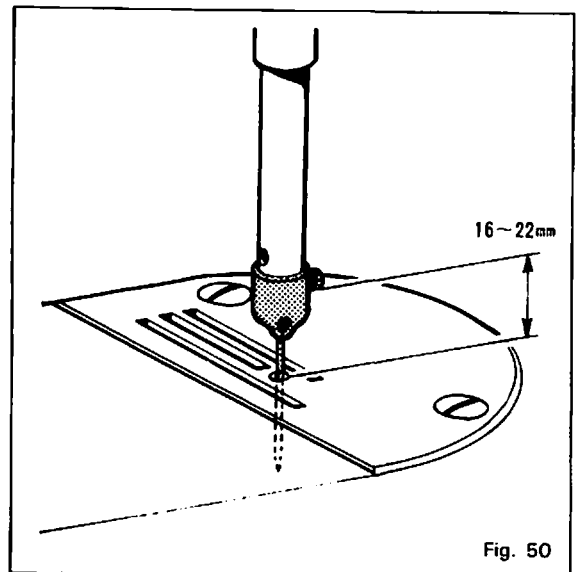

Fig. 50
When the sewing machine stops at its needle down position after high speed sewing and treadle pedal's neutral position, adjust to move the position of needle down lead switch ⑥ by loosening its screw so that the distance from the lower part of needle set screw and the surface of needle plate may be 16-22mm. (Fig. 50) The higher position will be obtained by turning it clockwise and the lower, counter clockwise.